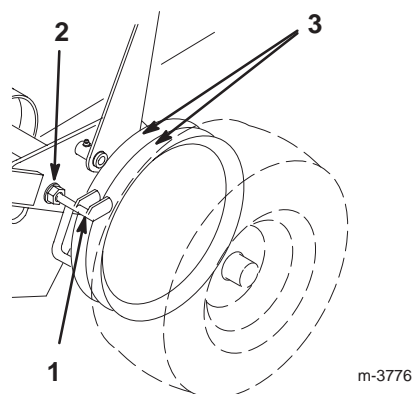

Figure 45
1. Loosen the locknut that holds the scraper to the engine frame (Fig. 45).
2. Rotate the scraper until it aligns with the center of the pulley grooves (Fig. 45).
3. Tighten the locknut (Fig. 45).